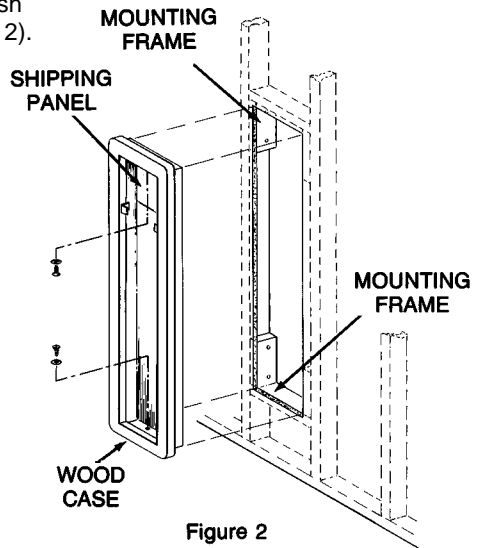

Figure 2
3. Nail mounting frames to wall studs flush with top and bottom of cut-out (Figure 2).
5. Secure the chime to mounting frames using black screws and finishing washers (Figure 2).